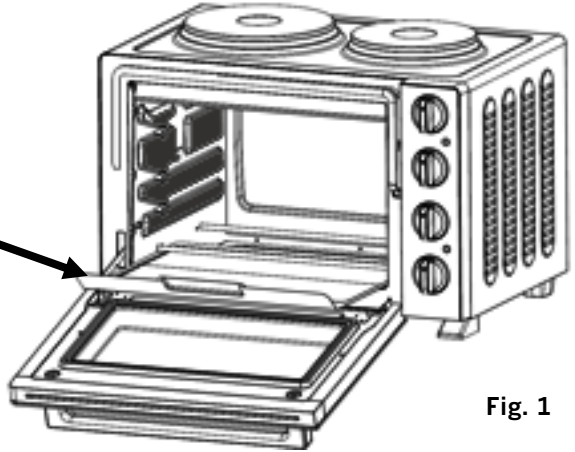

Fig. 1
- Where to fit the crumb tray - see fig 1
- Slide the crumb tray **underneath** the lower heating elements so that it lays flush with the base of the oven (fig. 1)